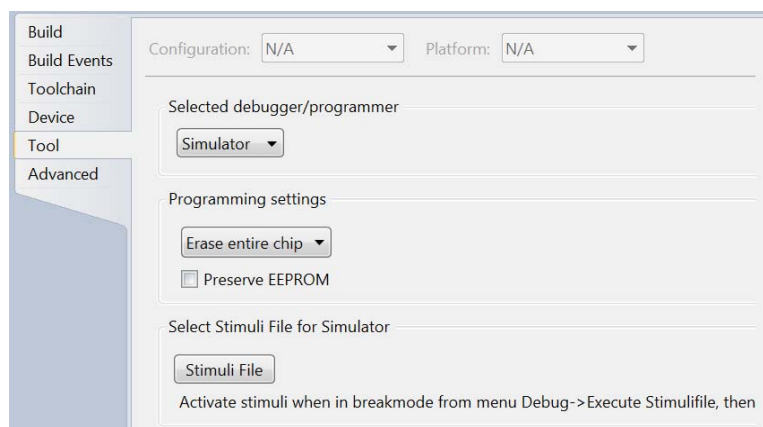

Figure 6: Specifying the debugger to be 'Simulator'.
- Start the debugger by selecting menu **Debug | Start Debugging and Break**. Atmel Studio will require you to specify a debugger. Select 'Simulator', as shown in Figure 6.